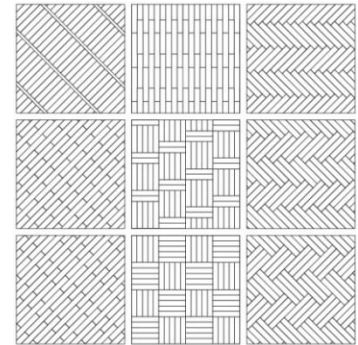

Figure 1
1. Hakwood Herringbone engineered flooring can be laid out in several ways (Figure 1) as parallel or at a 45-degree angle to the room.